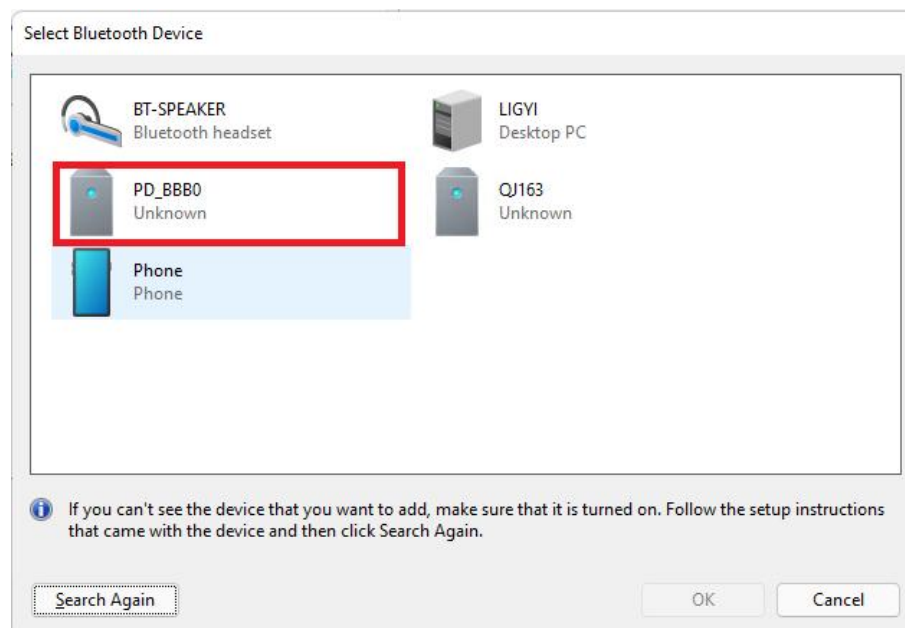

Fig.4
1.4 On the Add page, add required devices based on the device information. The device name is the factory ID. Fig. 4